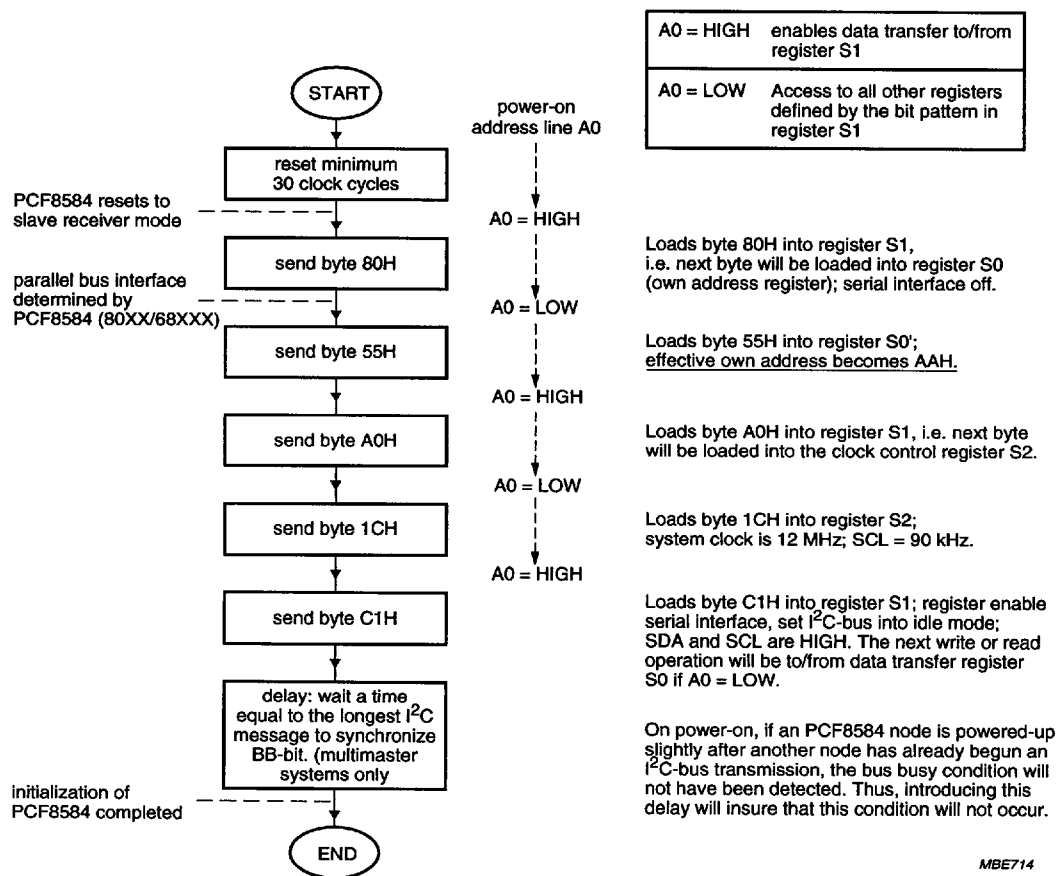

Fig.5 PCF8584 initialization sequence.
- When powering up multiple PCF8584s in multi-master systems, the possibility exists that one node may power up slightly after another node has already begun an I²C-bus transmission; the Bus Busy condition will thus not have been detected. To avoid this condition, a delay should be introduced in the initialization sequence of each PCF8584 equal to the longest I²C-bus transmission, see flowchart 'PCF8584 initialization' (Fig.5).
The flowchart of Fig.5 gives an example of a proper initialization sequence of the PCF8584. When implemented in 808X-type bus systems with peripherals sharing a common \overline{WR} signal, this procedure should be executed first before communicating with other bus peripherals to avoid false programming of the PCF8584 (see Section 6.2)